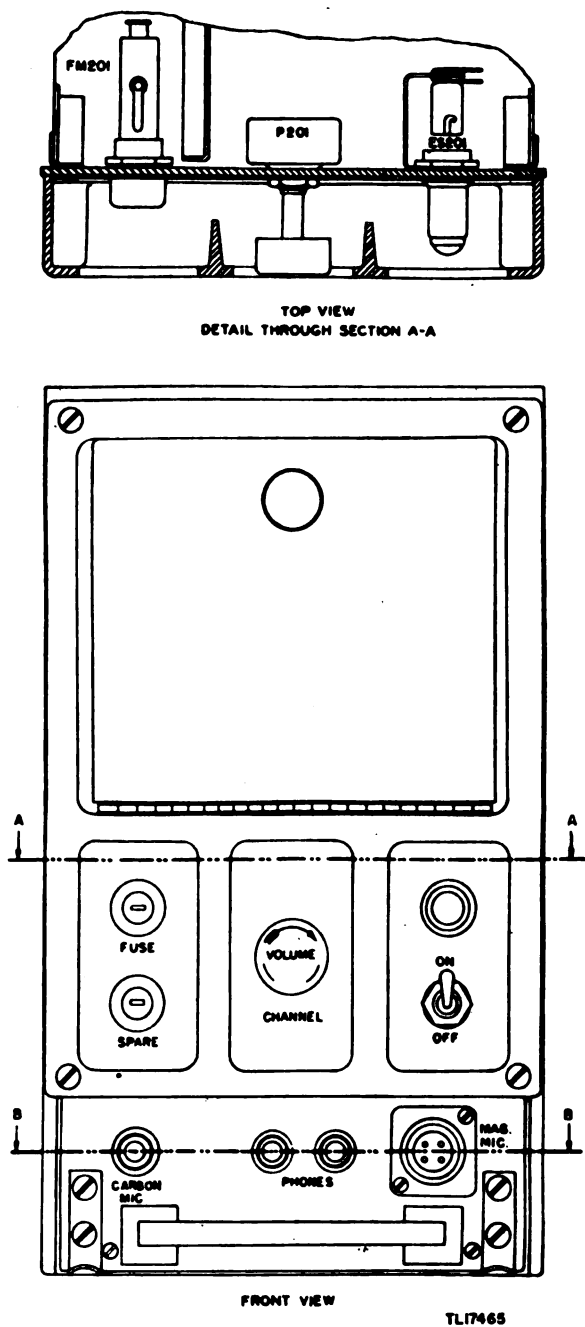

Figure 10. Interphone Amplifier BC-605-(*), panel apparatus location.
e. **MAGNETIC MICROPHONE JACK CAP (fig. 10).** Remove the magnetic microphone jack cap by turning it in a counterclockwise direction, and pull it out.
b. **CLEANING AND INSPECTING.** (1) Remove the dust cover and see that the circuit label is firmly secured to the bottom.
(6) Clean the vacuum tube sockets and their pin receptacles with dry-cleaning solvent (SD), using the small camel's-hair brush. Check the tightness of the pin contacts by plugging in a suitable tube. Clean the contacts with fine sandpaper to remove corrosion, oxidation, and dirt. Make sure the sockets are mounted securely. If the pin receptacles of a socket are bent or broken or if the socket is otherwise defective, replace the socket.
(7) Clean all accessible electrical connections and grounding screws with dry-cleaning solvent (SD), using a toothbrush. Inspect for loose or broken connections and solder or tighten them as necessary.
(8) Check all accessible mechanical fastenings, such as screws and bolts, and tighten as necessary, being careful not to use excessive force.
(9) Clean the pilot lamp socket (fig. 10), applying dry-cleaning solvent (SD) generously with the small camel's-hair brush.